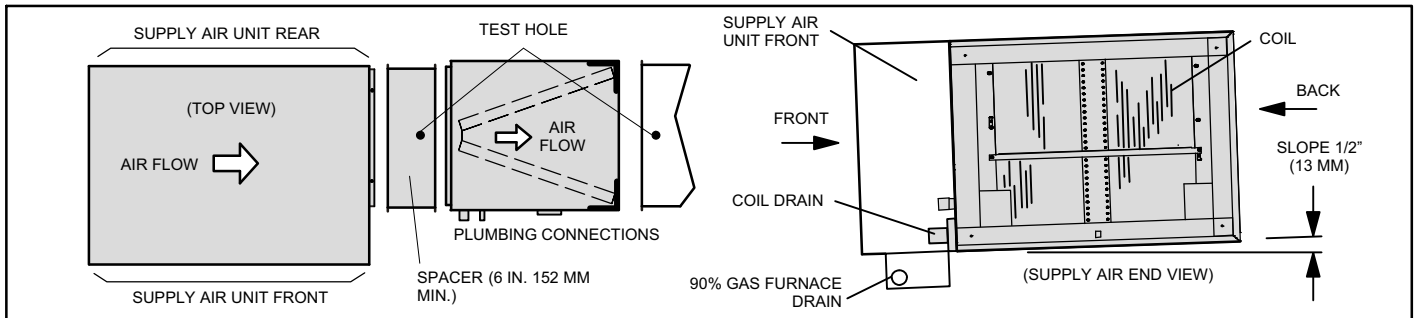

Figure 4. Right-Hand Air Discharge with Spacer
4. **Right-Hand Air Discharge with Field-Provided Spacer**—The coil must have a 1/2" slope from the rear of the cabinet to the drain. Position the coil in the left-to-right configuration connection on the service access side of the furnace (see figure 4). Position the field-provided spacer between the furnace and the coil. Use field-provided screws to secure the coil casing, spacer and the furnace together. The spacer should be long enough to allow room for proper installation (approximately six inches minimum).